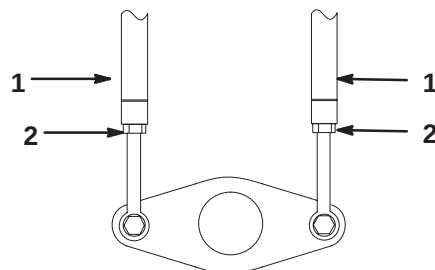

Figure 23
- Loosen the jam nuts on the traction rods, under the control panel (Fig. 23).